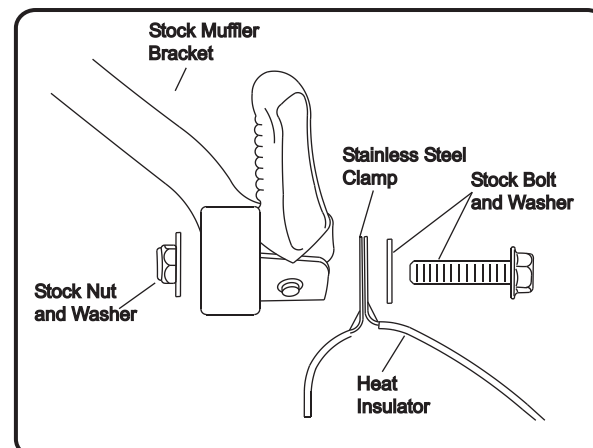

Fig. 3
- 5 Apply heat insulator to inside of muffler clamp and slide clamp onto muffler. (note direction of clamp in Fig. 3)
- 6 Mount clamp to outside of stock muffler bracket using stock bolt, washer, and nut. (see Fig. 3)